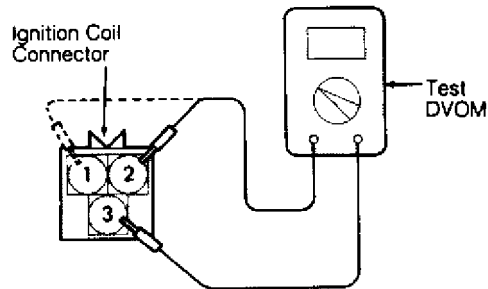

Fig. 2: Testing Ignition Coil Primary Resistance (1.6L)
1) Using a Digital Volt-Ohmmeter (DVOM), measure primary coil resistance between ignition coil connector terminals No. 2 and 3 (coils for cylinders No. 1 and 4) and terminals No. 1 and 3 (coils for cylinders No. 2 and 3). See Fig. 2.